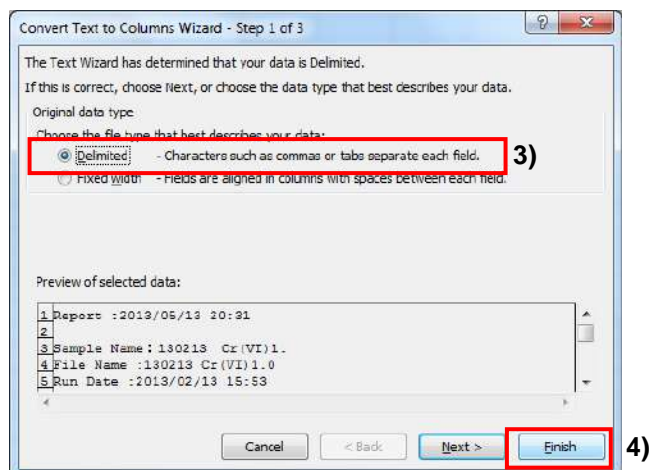

Fig. 5-77 Convert Text to Columns Wizard Window
- (4) When the wizard shown in Fig. 5-77 is displayed, confirm that the "Delimited - Characters such as commas or tabs separate each field." radio button is selected, and then press the "Finish" button.